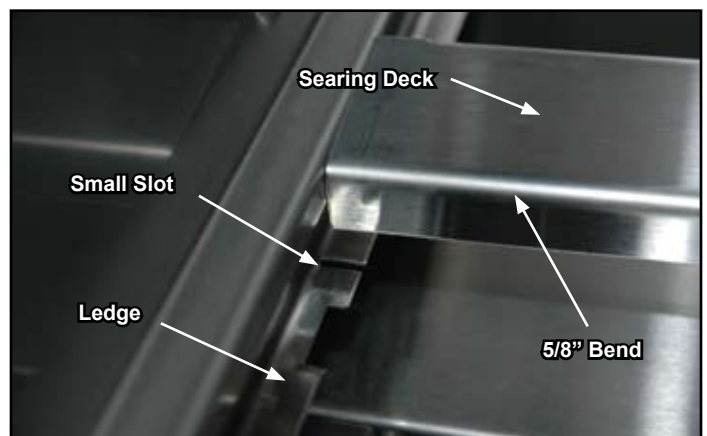

Figure 12
3. Hold the searing deck with the round air holes away from you and the rectangular cut-outs to the top and back. The 5/8 inch bend facing you slides into the small slots in the ledges on both sides of the compartment. See Figure 12.